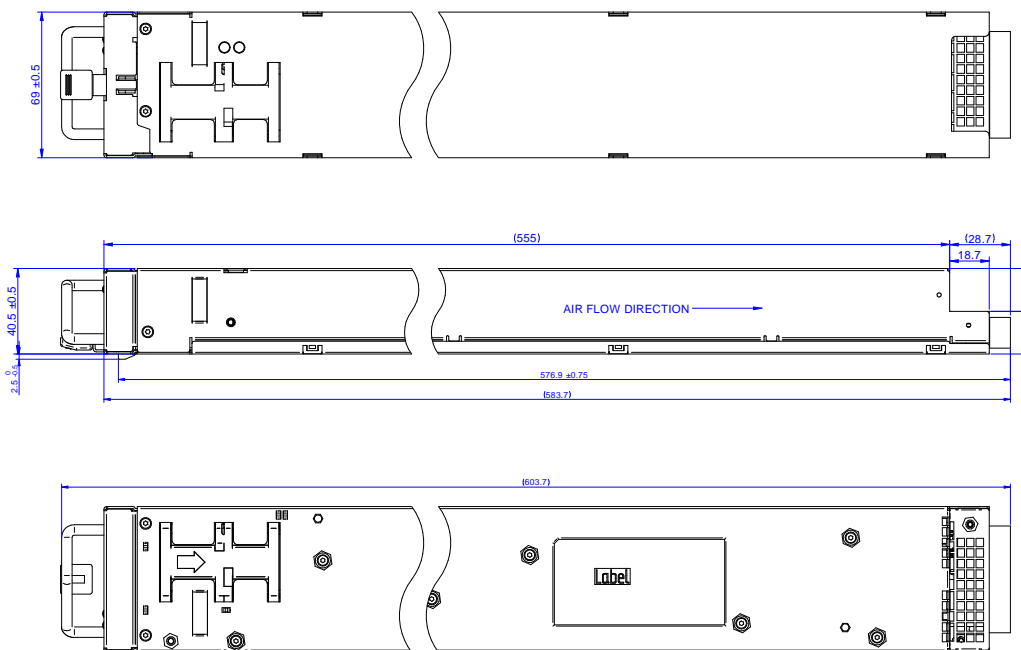

Figure 34. Bottom, top and side views
2) Correct Figure 34 - PC / SMBus Timing typo in section 8.11 page16, SDA and SCL was interchanged